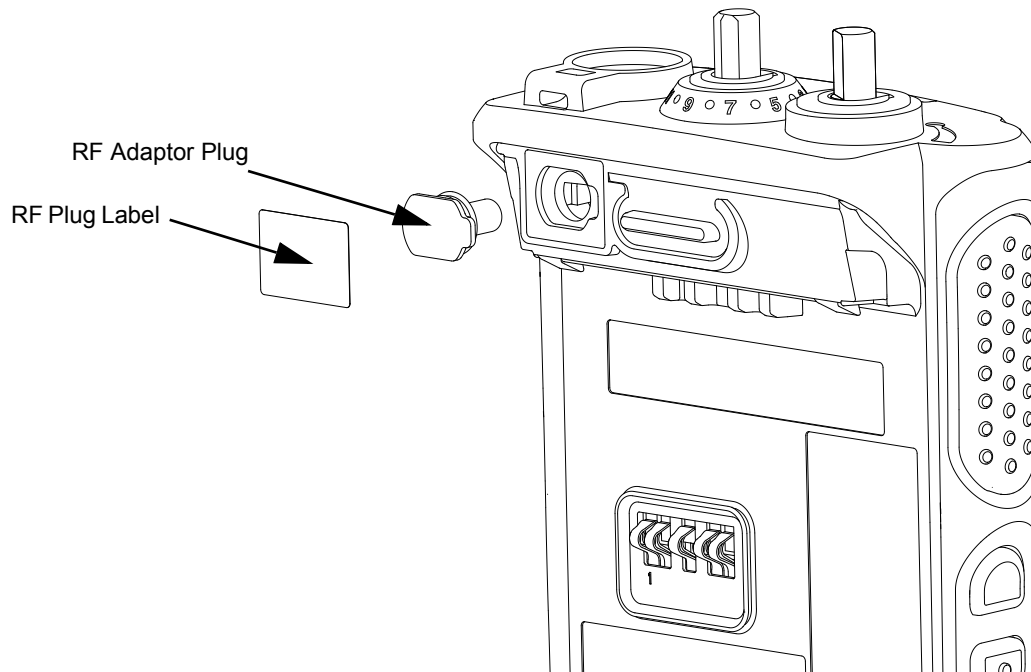

Figure 3-2. RF Adaptor Plug
- b. Remove RF Adaptor plug (orange) as shown in Figure 3-2.